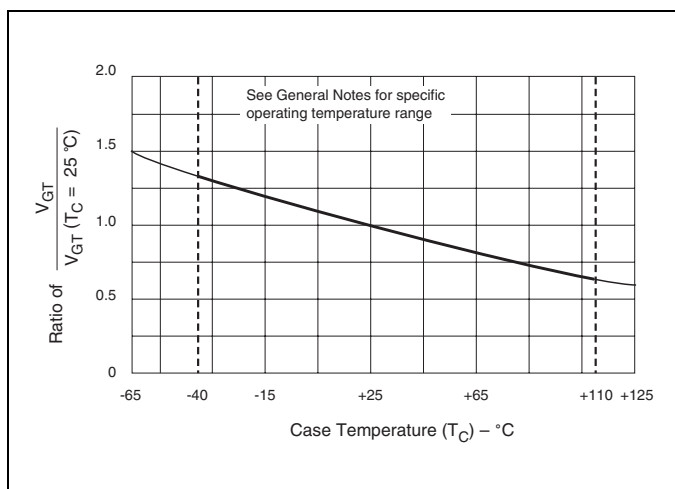

Figure E5.12 Normalized DC Gate-Trigger Voltage versus Case Temperature
- (4) See Figure E5.12 for V_{GT} versus T_C or T_L .